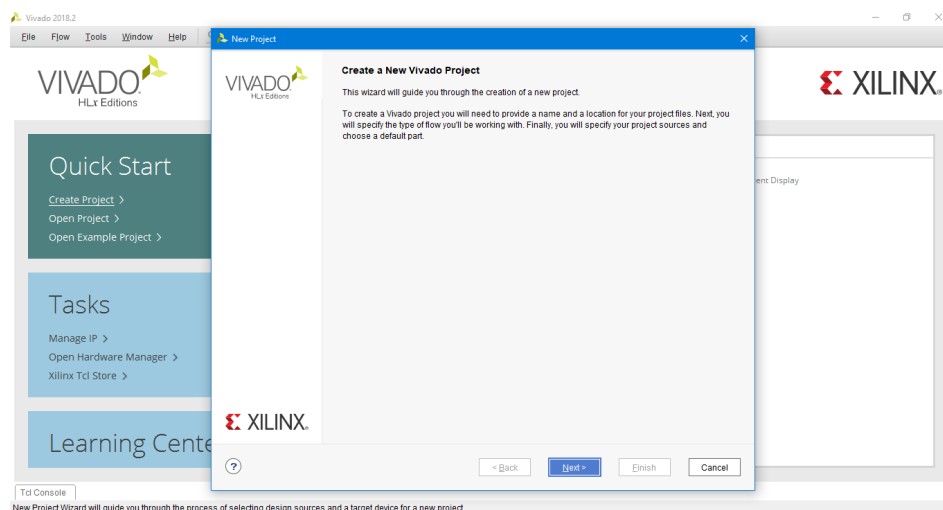

Fig. 2.2: Project Dialog Box
1. From *Quick Start* click on *Create Project*. A new project dialog box will appear. Click on *Next*. (Fig. 2.2)